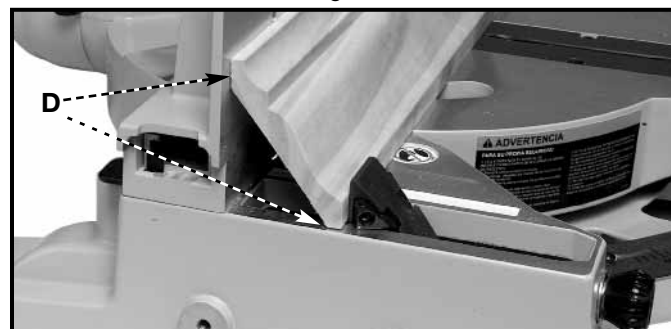

Fig. 46
2. Place the crown moulding in the "nested" position between the fence and table with the ceiling edge on the base and the wall edge against on the fence, as shown in Fig. 46. Make sure the flats of the molding, (D) Fig. 46, are even with the fence and the table as shown. Make the cut.